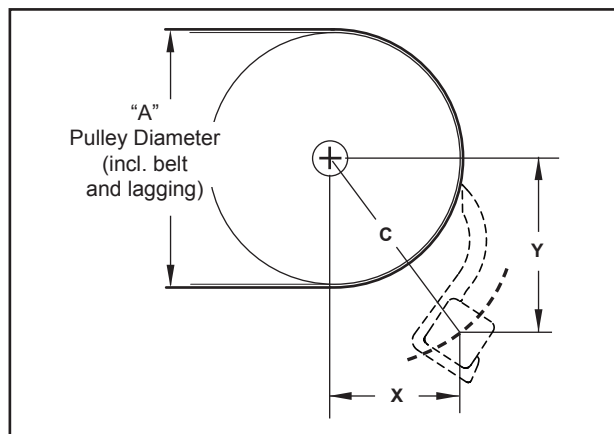

Fig. 1
1. Measure pulley diameter (A), including lagging and belt (Fig. 1).
2. Locate the overall pulley diameter that most closely matches yours on chart A, and use the corresponding X, Y, & C dimensions to locate the position of the center of the cleaner bar (Fig. 1).
3. Trial fit the FGP-ES with the blade positioned per Fig. 1. Establish acceptable mounting plate positions on each side of the conveyor, clamp in place if necessary, and mark holes for drilling. A minimum of 3 mounting bolts is required for each mounting plate. Drill mounting holes and assemble FGP-ES in position as described in Section 4 - Installation Instructions.
3. From center of pulley shaft measure down the distance of Y dimension and place a mark on structure (Fig. 1).
4. From Y location mark, measure away from the pulley the distance of X dimension and mark this position. This will be the location of center of bar (Fig. 1). Measure the C dimension to verify that it is correct.